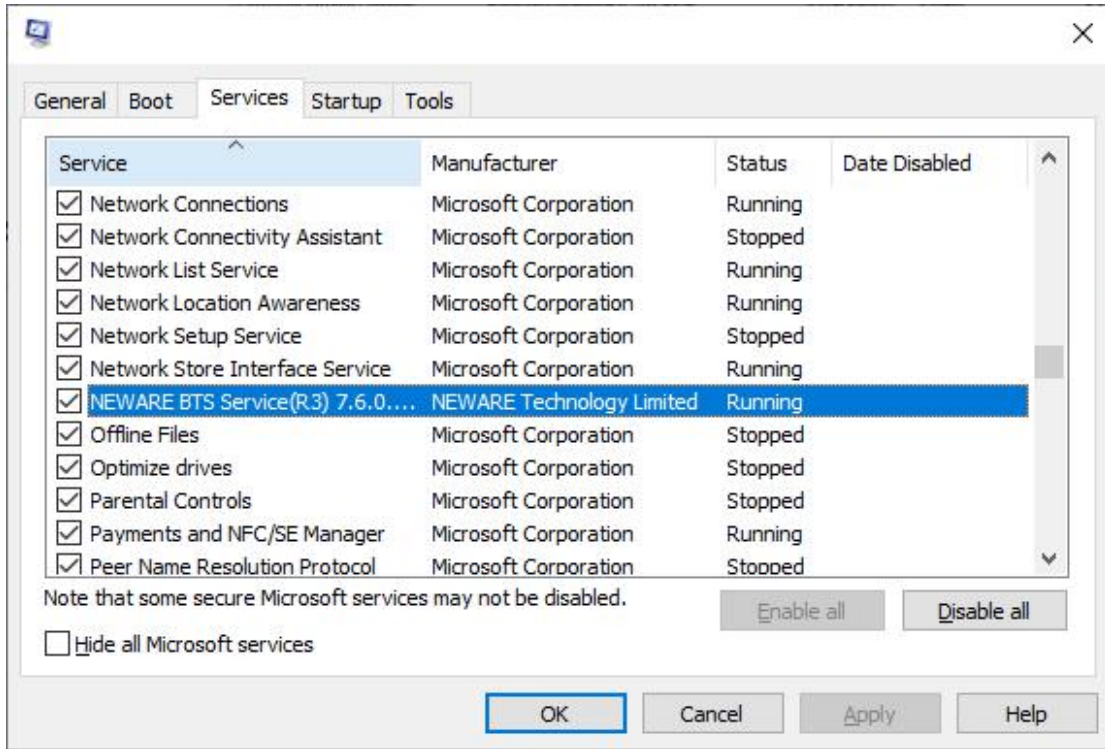

Figure 3.4.4 System configuration utility window
- Enter “System configuration utility”. choose“NEWARE BTS Service”in the service, click “Apply”and restart the computer.(Shown in the figure 3.4.4)